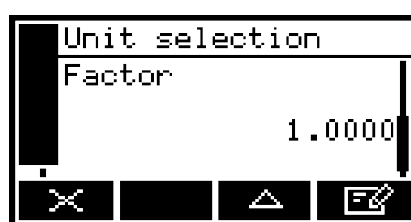

Figure 25: The Units conversion factor screen
6. With the Currently selected units screen (Figure 23) shown, press the **▽** soft key. The Units conversion factor screen will then be displayed, as shown in Figure 25.